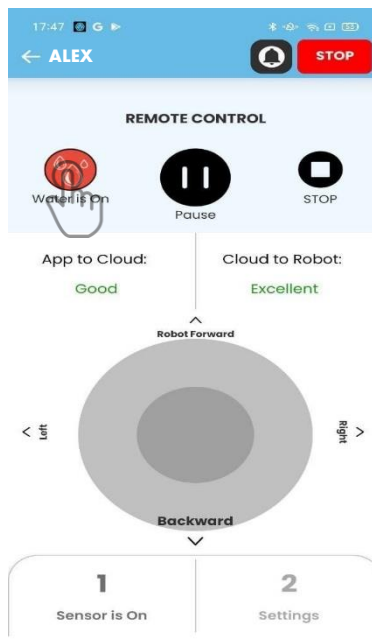

Fig. 5
5. To start cleaning during remote control, click on the 'Start' button. The cleaning function is initiated in about 5 seconds with the water spray on by default, as indicated by the 'Water is On' toggle button on the top left, highlighted in red (Fig. 5).